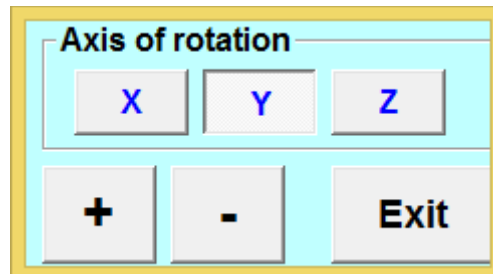

Figure 68
**Step 1:** Click button  Figure 68 will then appear.